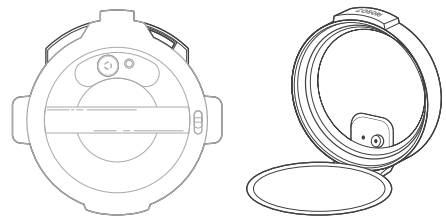

Figure 1.5
- The lid can be placed in the lid holder located in the back of the pressure cooker base for convenience. **[Figure 1.5]**